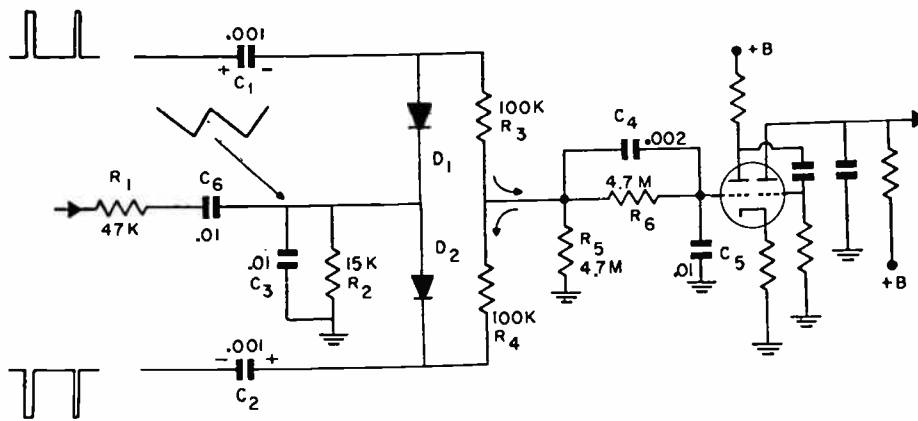

Fig. 33. A typical phase detector afc system.
There are two types of phase detector systems. One type requires two signals from the sync circuit; the other, only one. A phase detector afc system that compares horizontal sync pulses of equal amplitude, but opposite polarity, with the locally generated sawtooth wave that is fed back from the horizontal output circuit is shown in Fig. 33.
those at the collector, negative-going. The positive sync pulses are fed to D_2 and the negative pulses to D_1 . The sawtooth is fed to the junction of D_1 and D_2 . The afc circuit works just like the circuit shown in Fig. 33.
A long time constant network is used at the output of a phase detector for a number of reasons. For example, the time constant must be made long enough so the instantaneous current changes do not cause the charge on capacitor C_5 (in Figs. 33 and 36) and on C_9
- (ao) How many sync signals are required for the phase detector system shown in Fig. 33?
- (as) Will a positive voltage across C_5 in Fig. 33 cause the oscillator frequency to increase or decrease?